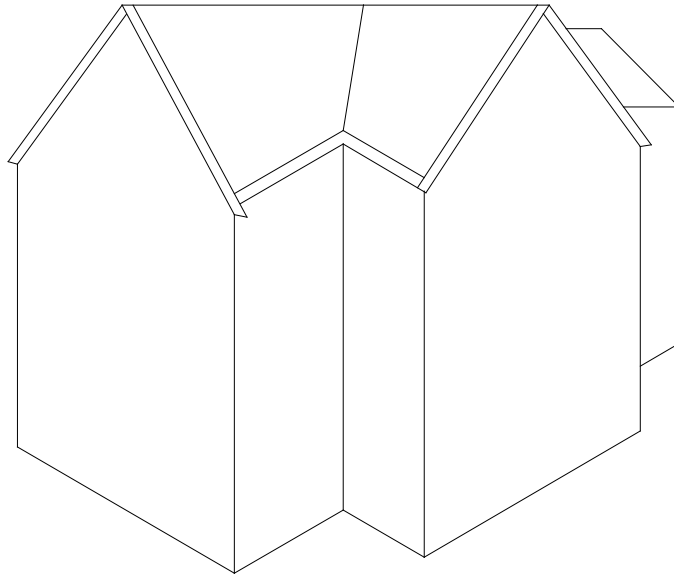
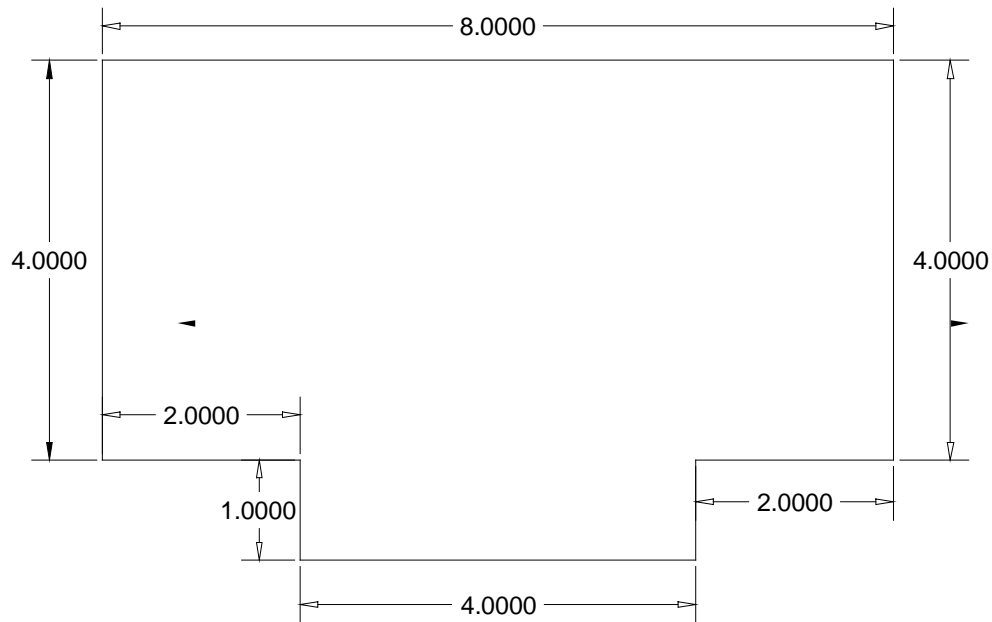

Figure 8.1
Figure 8.2
1. On graph paper, let's lay out a simple floor plan. This will give you an understanding of the process that will allow you to develop your own designs. **Figure 8.1** is a 3-D rendition of the house we are going to build, followed by a simple floor plan as seen in **Figure 8.2**.